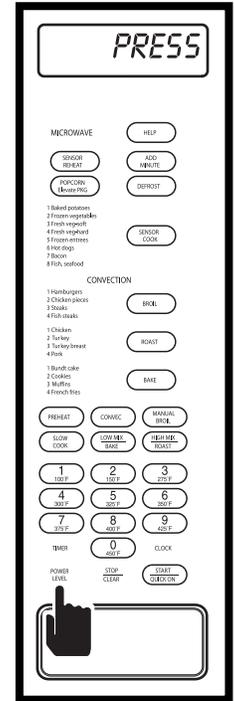

Figure 3-41.
3. Press the POWER LEVEL key once, display will show "PRESS - POWER - LEVEL - NUMBER" (See Figure 3-41).